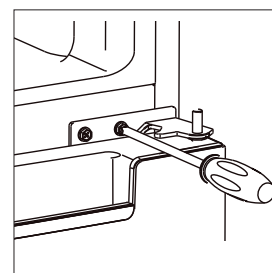
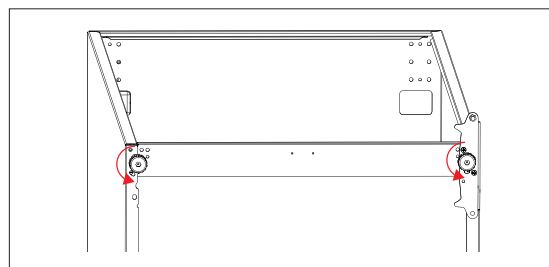

Fig. 8
Fig. 9
- ▶ Remove the middle hinge (6) by loosening the retaining screws (Fig. 8). Remove the washers as well and place them safely to one side for use later.
- ▶ Lift the freezer door (7) off the bottom hinge and place it to one side on a soft surface to avoid scratches and secure it against falling over.
- ▶ Remove the blind plug from the hinge bushing on the left-hand side of the freezer compartment door (7) by prying it out using a slotted screwdriver. Re-insert the blind plug into the hinge bushing on the right-hand side.
- ▶ Remove the appliance feet (9) by turning anti-clockwise (Fig. 9).